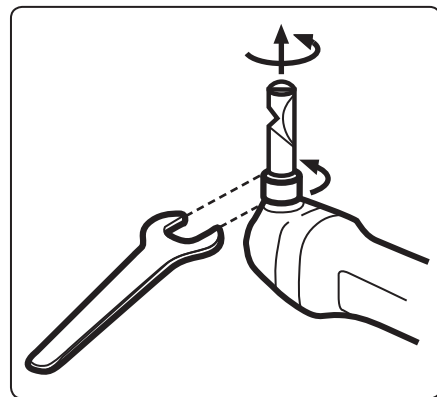

Fig. 3
1. Loosen the lock nut on the die holder and turn the die to the required orientation as shown in fig. 3.